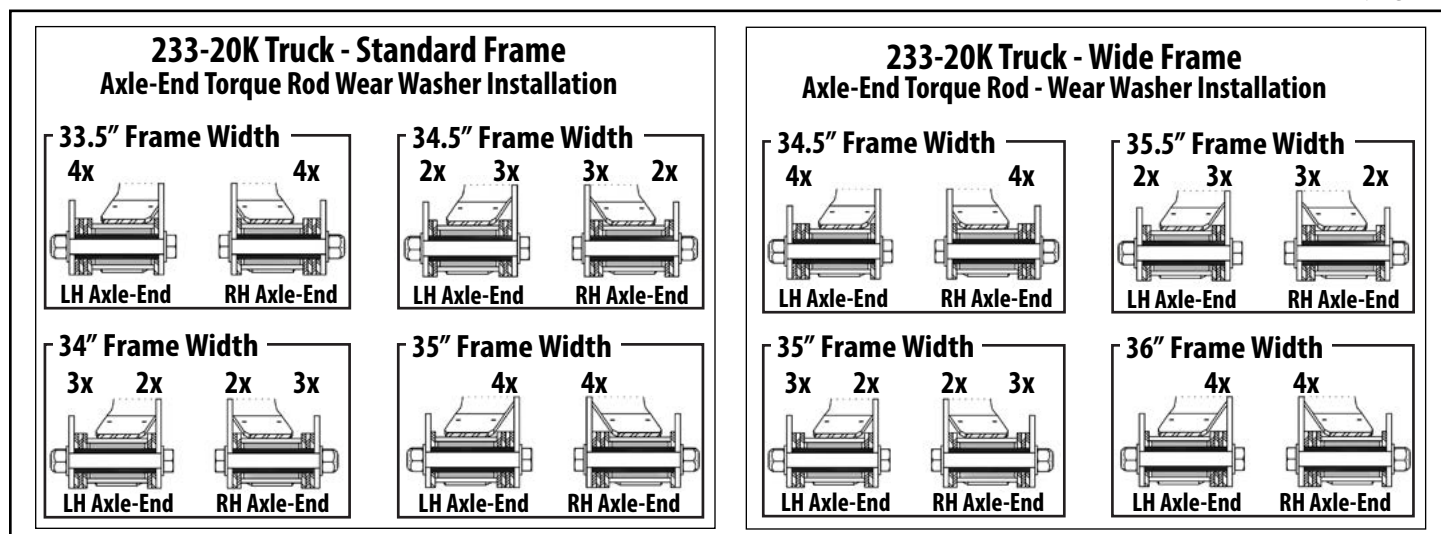

Figure 10.
- Count the number of wear washers on each side of the bushing on the Axle-End Torque Rod Assembly. The wear washer number varies according to the frame-width set by the hangers (Figure 10).